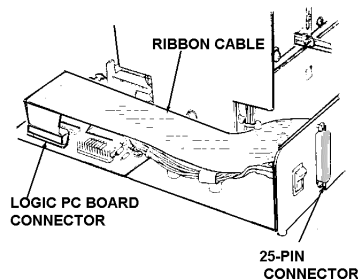

Figure 24. Proper Ribbon Cable Orientation.
- e). Carefully remove any twists from the cable and route it to the Logic board (See Figure 24).